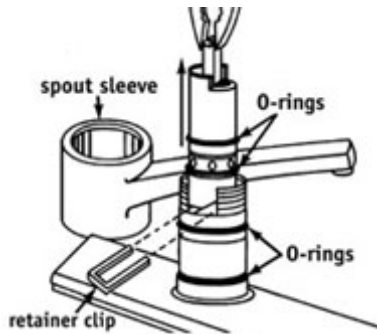

FIG. 6 - To take apart a cartridge faucet, remove the spout sleeve and retainer clip, and lift out the cartridge.
- Once the retainer clip is removed, the cartridge simply pulls out. Use pliers, as shown in Fig. 6. Install the new cartridge by pushing it into place with the flat arrow, or other mark upward. If you use a lubricant on the cartridge, make sure it's silicone grease.